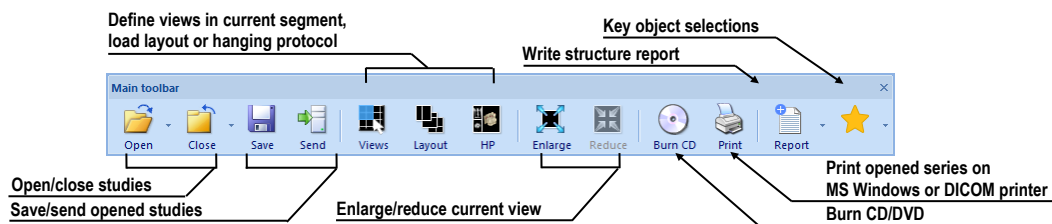

**Figure 43 – Help menu**
- **Help** – displaying the application version, installing licenses and browsing the electronic version of the user's manual (see Figure 43).